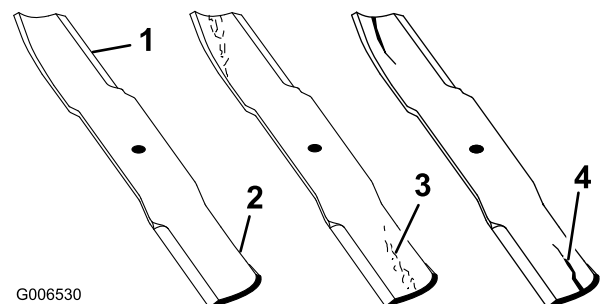

Figure 96
1. Inspect the cutting edges (Figure 96). If the edges are not sharp or have nicks, remove and sharpen the blades. Refer to Sharpening the Blades (page 60).
2. Inspect the blades, especially the curved area (Figure 96). If you notice any damage, wear, or a slot forming in this area (Figure 96), immediately install a new blade.